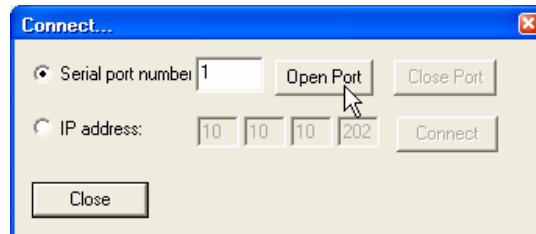

Figure 18: Specifying the Connection Type
3. In the Connect window (Figure 18):